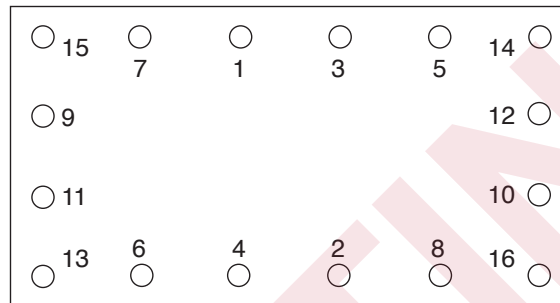

Figure 2-1. Torquing Pattern for Profibus Indicator Interface Enclosure
Initial setup and configuration of the Profibus Indicator Interface requires opening the Interface enclosure. The enclosure cover uses 16 screws to ensure proper seating of the cover gasket. Use the torquing pattern shown in Figure 2-1 to prevent deformation of the gasket when removing and replacing the cover. Torque screws to 15 in-lb when replacing the cover.
5. Replace enclosure cover and tighten screws using torquing pattern shown in Figure 2-1.